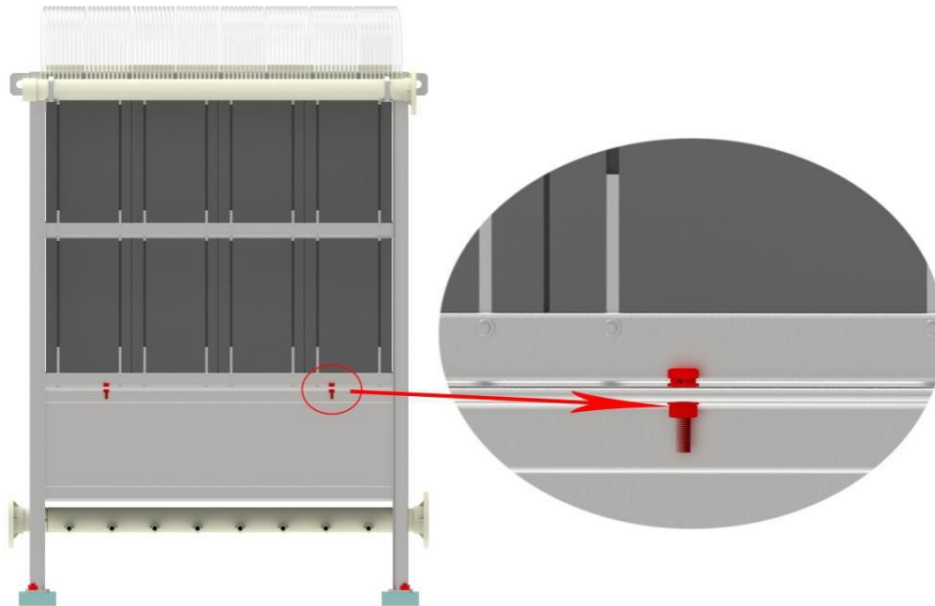

Figure 5-9 Membrane case position method one
(1) Method one: use bolts (show in figure 5-9)。